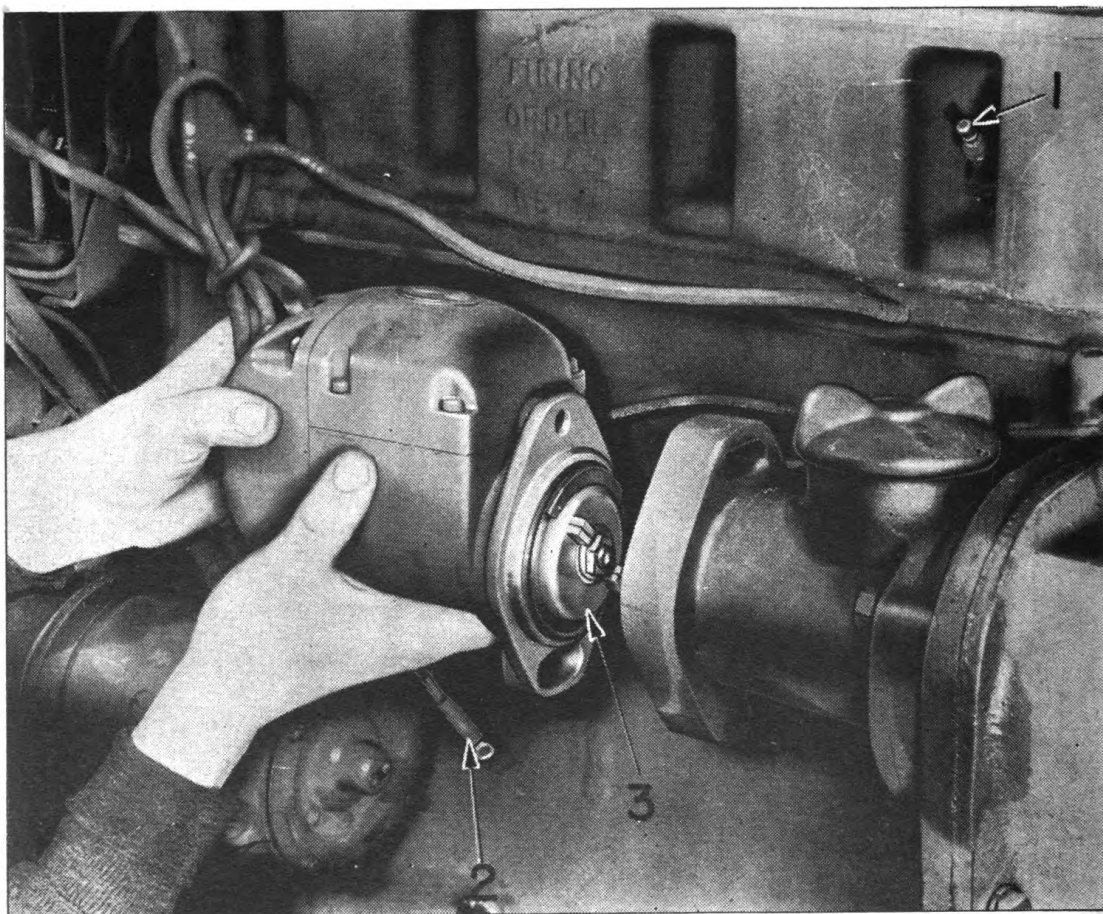

Fig. 35. Magneto in Proper Position for Installing on Engine
Fig. 35—Disconnect all wires from the magneto to spark plugs. Disconnect the grounding wire. Take out the two cap screws attaching the flange of the magneto to the magneto drive. The magneto can then be lifted off.
1. Remove all spark plug wires and Nos. 2, 3 and 4 spark plugs from head. The spark plug in No. 1 cylinder remains in place Fig. 35.